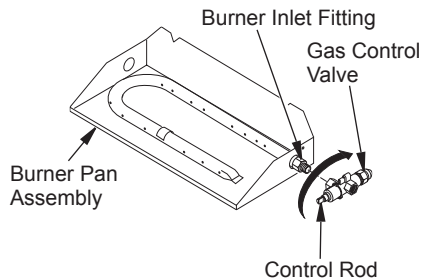

Figure 8 - Installing Gas Control Valve
1. Thread the gas control valve onto the burner inlet fitting (see Figure 8). Use thread sealant on the male threads of the burner inlet fitting. Hold the burner inlet fitting with a wrench to prevent overtightening the connection to the burner. Make sure the control rod is facing the front (see Figure 8).